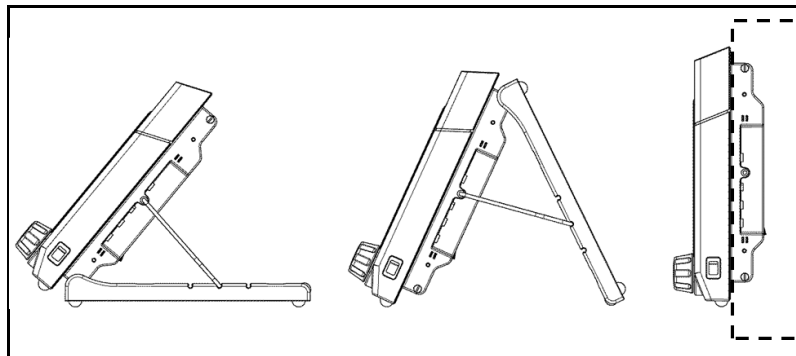

Fig. 2: Set-up/installation options for the vacuum controller
- Bench version 1 (see Fig. 2, left)
- Bench version 2 (see Fig. 2, center)
- Installation version (see Fig. 2, right)
Bench versions 1 and 2 (see Fig. 2 left and center)
Installation version (see Fig. 2, right)